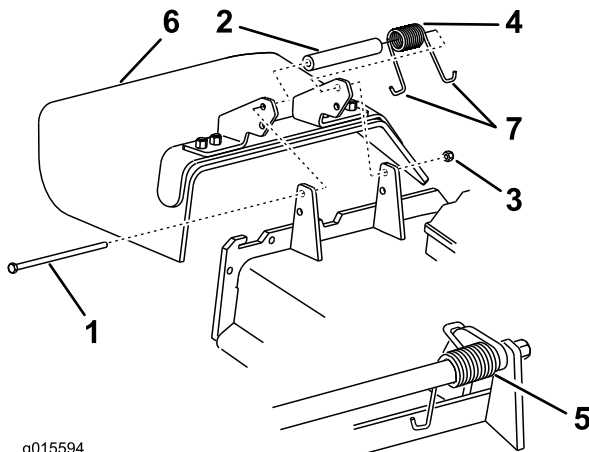

Figure 61
1. Remove the locknut, bolt, spring and spacer holding the deflector to the pivot brackets (Figure 61).
Note: Install one J-hook end of the spring is installed behind the deck edge before installing the bolt as shown in Figure 61.
3. Install the bolt and nut. Place one J-hook end of the spring around the grass deflector (Figure 61).